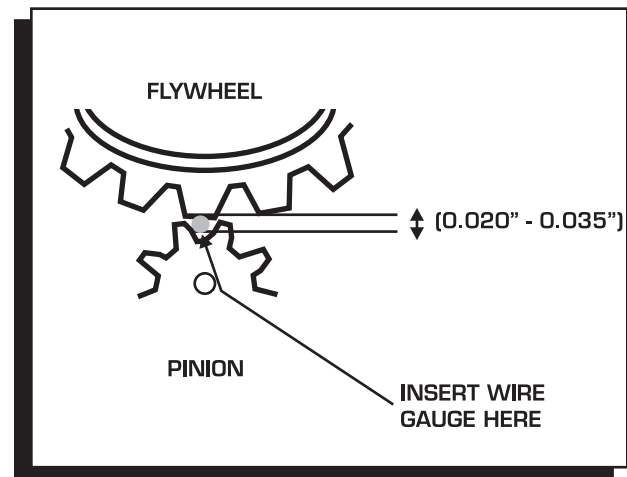

Figure 4 Checking Gear Mesh.
5. To check the pinion gear mesh, gently pry the gear out to engage to the ring gear. (Sometimes the pinion will not retract. This is normal.) Insert a wire gauge as shown in Figure 4. As a gauge, a standard 1.25" paperclip could be used as they generally are about .035" in diameter. There should be .020"-.035" clearance between the ring gear tooth and the pinion gear. The gear mesh is not adjustable on this application. Verify that all parts are correct for the application (flywheel, block plate, starter) and verify starter is mounted correctly to engine plate.
If there is a high pitch whine during cranking, the pinion to ring gear engagement may be out of specification, on the high side. If there is a whine after cranking there may be too little clearance. The gear mesh spec is .020"-.035" (Figure 4).